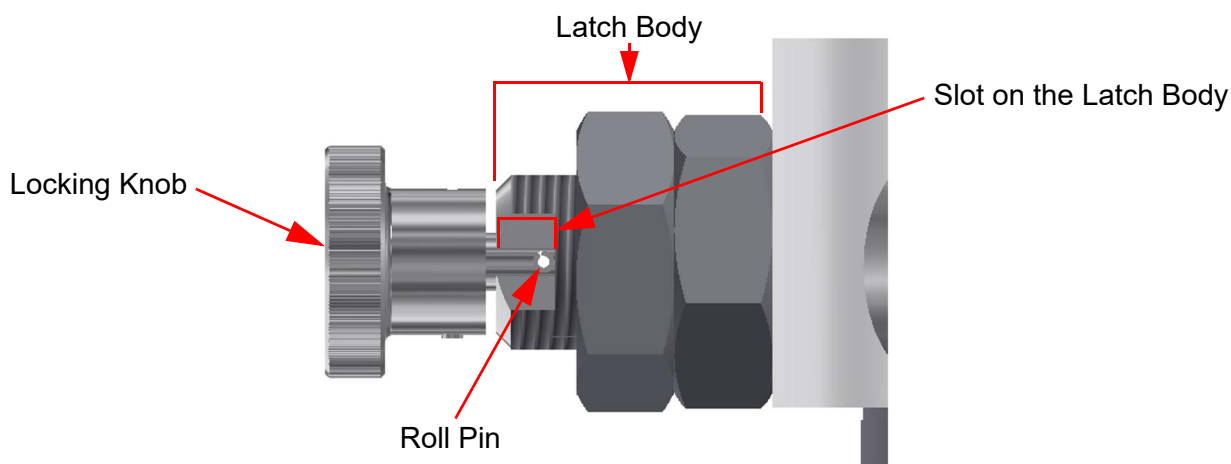

Figure 5-4 Locked Collar View
5. Unlock the lowest tube section collar. To unlock the collar, pull on the locking knobs and rotate them 90°. Continue pulling until the roll pin is disengaged from the slot on the latch body and release. At this point, the locking pins should be disengaged (Figure 5-4).
8. Once the tube is fully lowered, relock the collar. To relock the collar, pull out the knobs and rotate 90° until the roll pin goes back into the slot of the latch body (Figure 5-4).